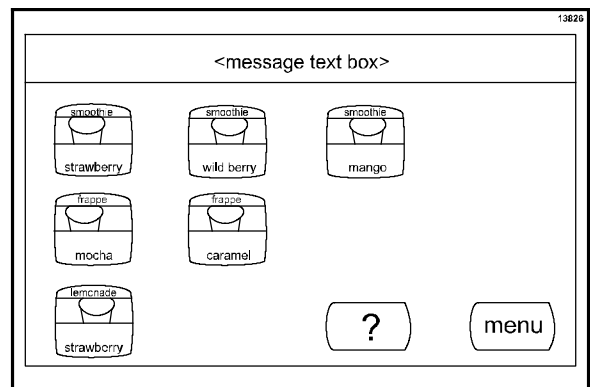

Figure 141
- Press the MENU key. (See Figure 141.)